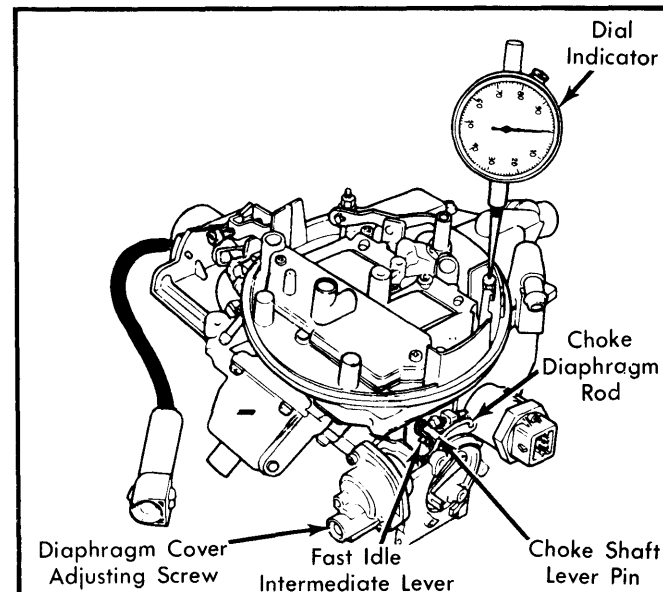

Fig. 7 Adjusting Choke Control Diaphragm (At CER 0°F Run Position)
7) Depress choke control diaphragm by pushing in on choke diaphragm rod (do not push on fast idle intermediate lever) until diaphragm bottoms on diaphragm cover adjusting screw. See Fig. 7.